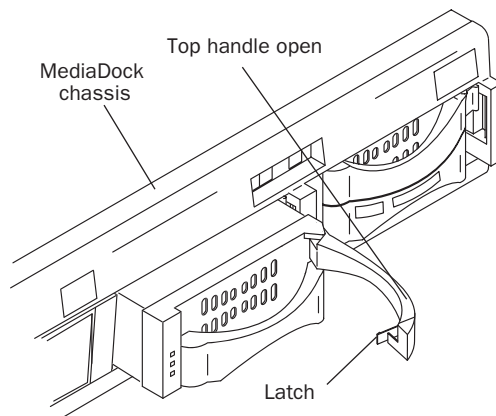

Figure 6. Letting the MediaDock Shuttle spin down
- 4 Release the latch and open the handle on the shuttle to disengage the shuttle from the back-plane (see Figure 6 on page 15).
- 6 Release the latch and open the handle on the shuttle to disengage the shuttle from the back-plane (see Figure 6 on page 15).
- 3 Release the latch and open the handle on the shuttle to disengage the shuttle from the back-plane (see Figure 6 on page 15).